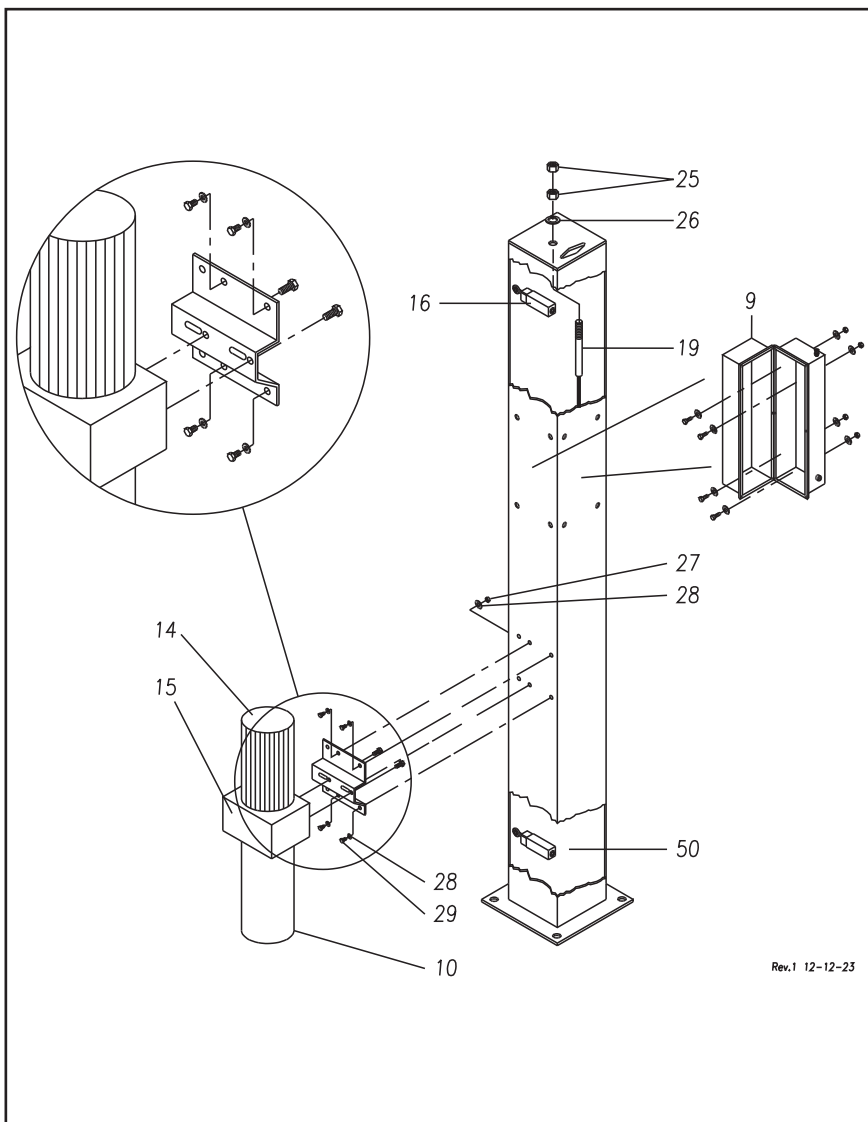

Fig.45
The posts can be identified by the numbers at the top. The control post (1) is also distinguished from the others because it has drilled holes to receive the control panel and the hydraulic power unit (fig.45).
Remove the M20 nuts (pos.25, fig.45) and the 21 x 37 washers (26) from the ends of the lifting cables and install the terminal blocks (19) in the relevant holes on the top plates of the posts.